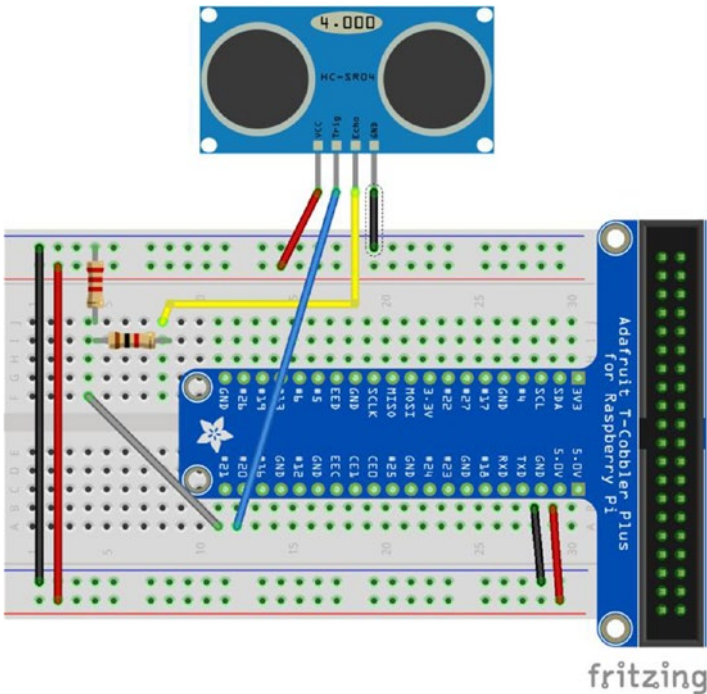

Figure 4-6. Sonic rangefinder example circuit layout
1. Attach the T-Cobbler, as shown in Figure 4-6. One row of pins should be on either side of the split in the board. The placement is up to you; however, I generally attach it so that the ribbon cable header is off the board. This allows maximum access to the breadboard.